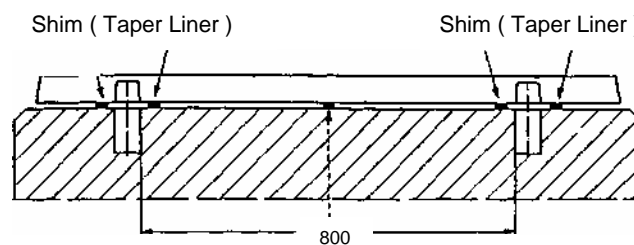

Fig. 2 Fitting the shims
- (1) Prepare packers and leveling shims or taper liners necessary for the common baseplate installation.
- (2) After complete cure-up of the foundation concrete, place and position packers along the both sides of each anchor bolt seat (if the shims are apart more than 800 mm, additional one more shim or extra shims at equi-distance between them as shown in Fig. 2) so that the common baseplate locates thereon in specific position. After each packer and shim (or taper liner) is positioned precisely, fix it by mortar application.